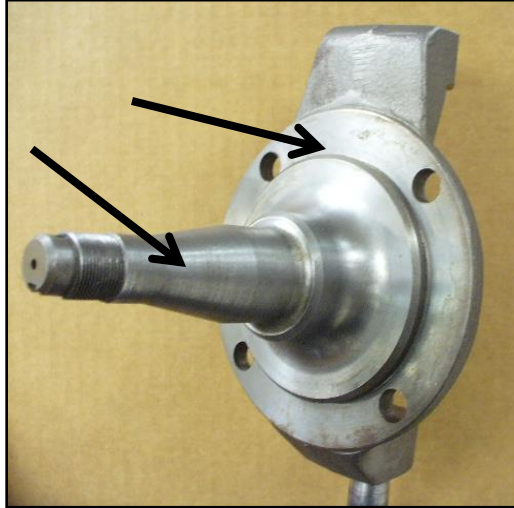

Figure 1: Location of spindle pin and mounting surface
1. Thoroughly clean the spindle pin and bracket mounting surface to ensure proper fitment of the new components. Figure 1 shows the locations of both spindle pin and bracket mounting surface.